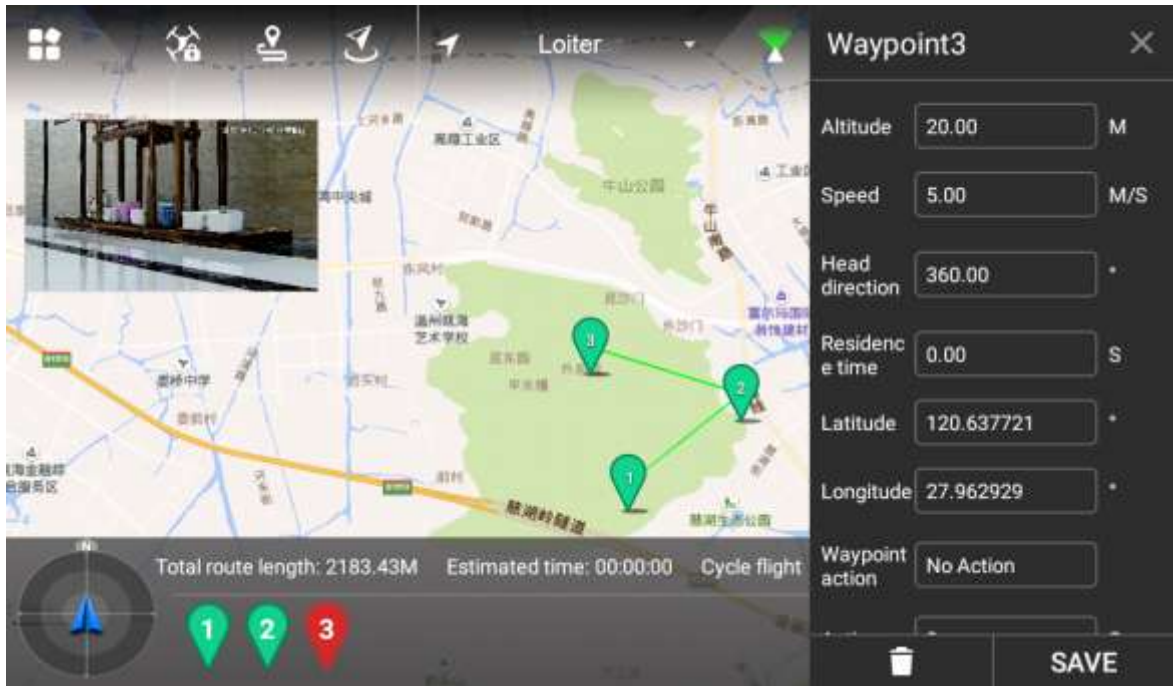

Figure 4-17
Step 3 Click a waypoint and it will become red. Waypoint setting interface will display on the right of the interface, as shown in Figure 4-17.